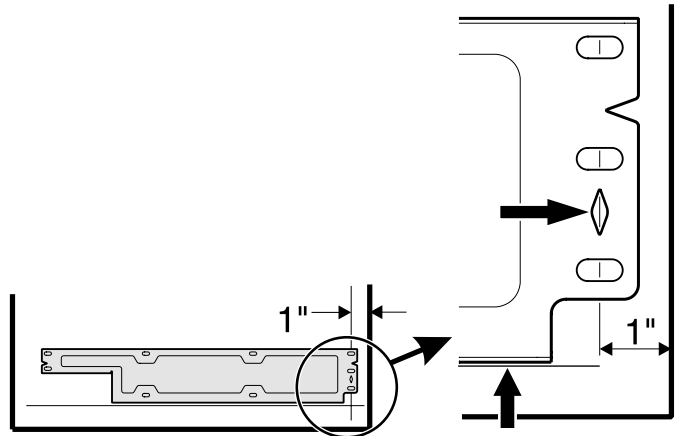

Figure 28
7. Dismantle the lower attachment bracket from the refrigerator door. Align the bracket to the lines on the refrigerator door panel. (**Figure 28**).